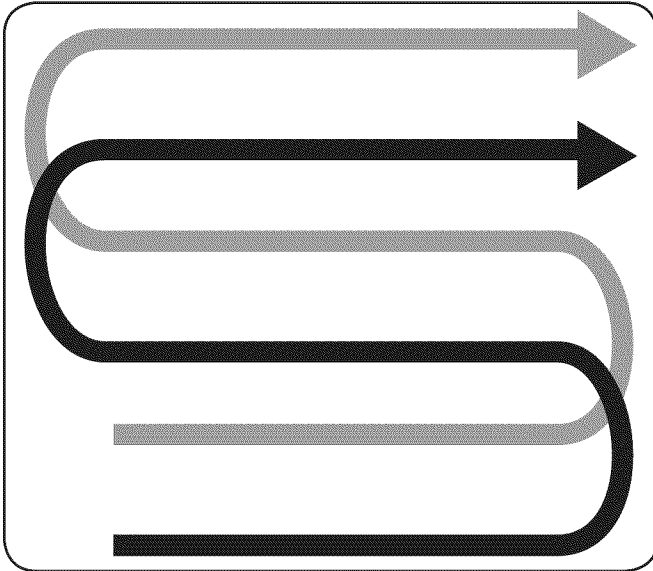

Figure 5-4
- When preparing a seedbed, go over the same path twice in the first row, then overlap one-half the tiller width on the rest of the passes. See Fig. 5-4.